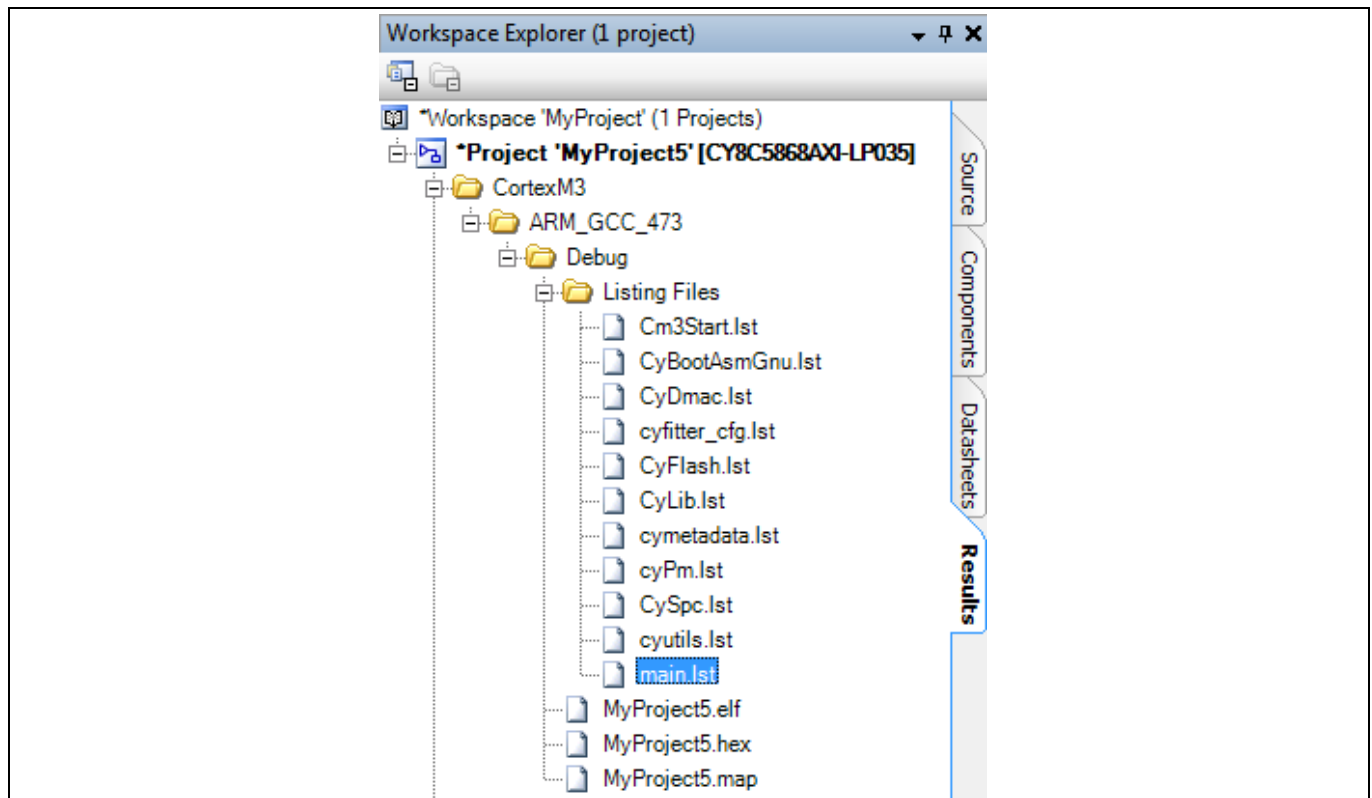

Figure 6 Listing files in PSoC™ Creator
1. Open the list file corresponding to the compiled C file (*filename.lst*), as shown in Figure 6. The default PSoC™ Creator project build setting is to create a list file; select **Project > Build Settings > Compiler > General**.